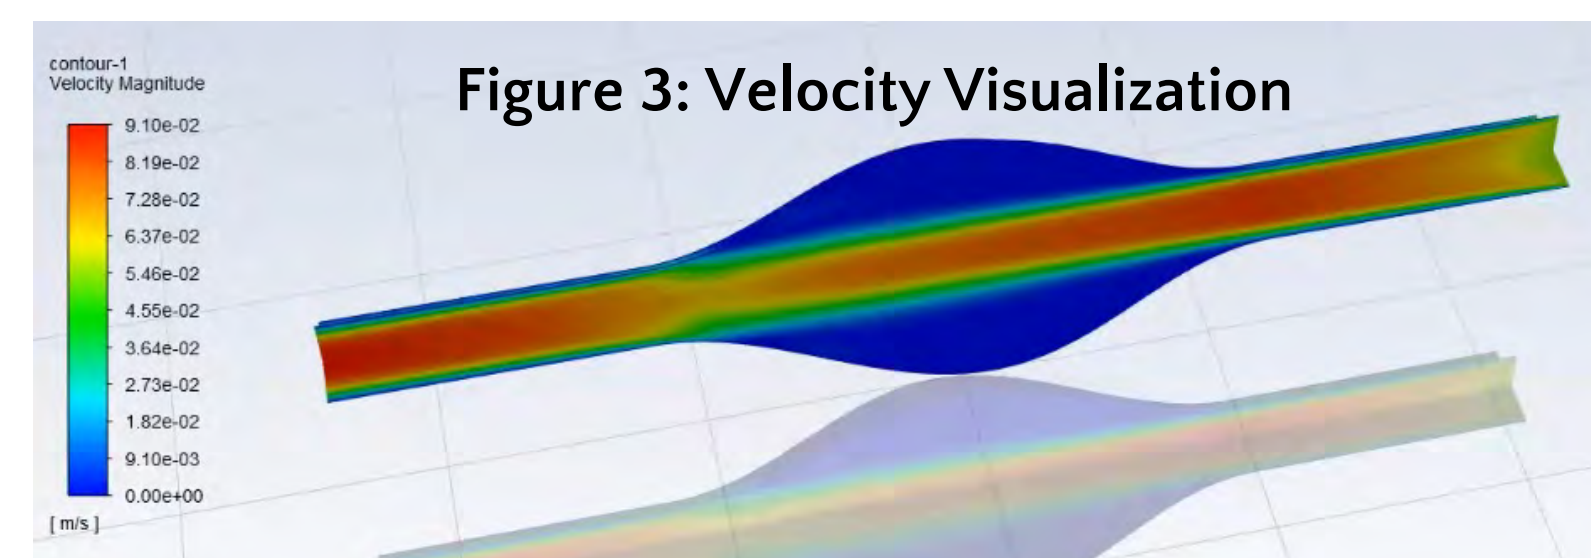

Figure 3: Velocity Visualization
- Velocity was then calculated and modeled in Fig. 3.